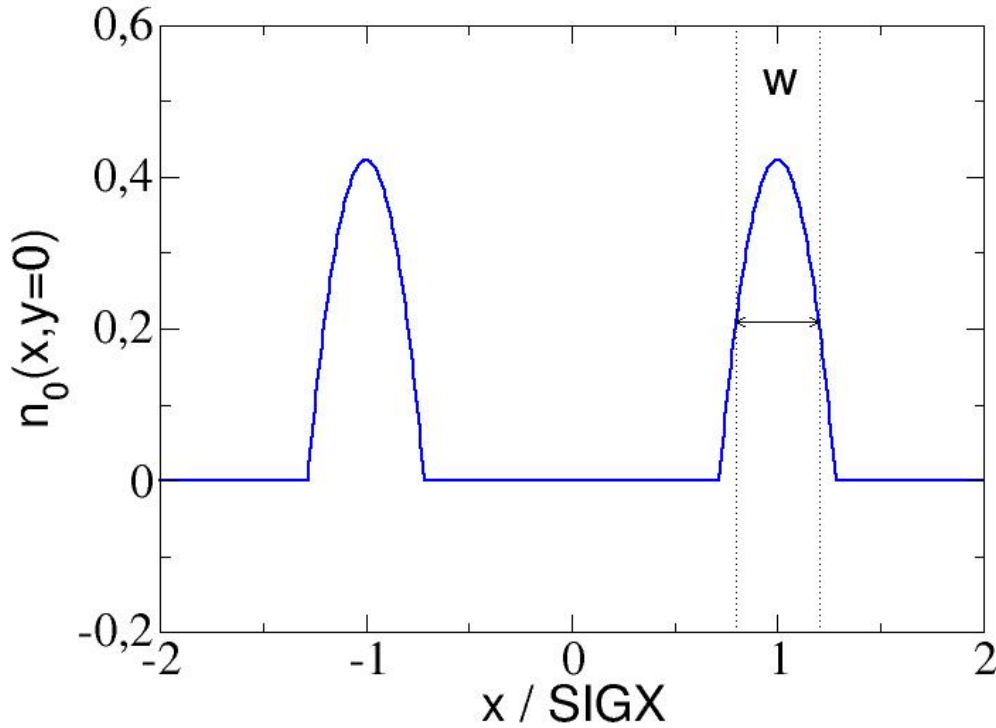

Figure 10.3: Hollow parabolic shape of radial density for beam-beam lens.
- BBSHAPE=3: hollow-parabolic shape (see fig.10.3, SIGX, SIGY: distance from the centre to the maximum of the parabolic density profile in horizontal, vertical directions. Still only circular opposite beam possible, i.e. in the calculations  $SIGX' = SIGY' = (SIGX + SIGY) / 2$  is used, if SIGX and SIGY have different values.